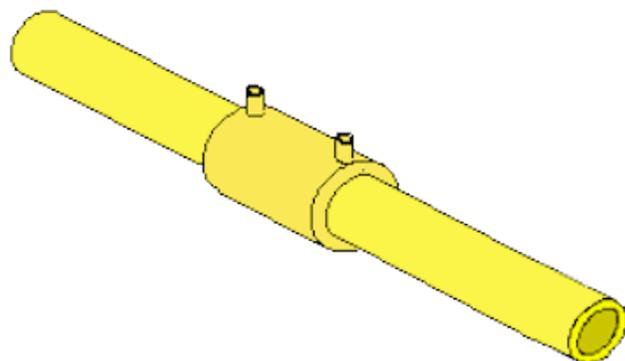

Figure D10 – Completed Joint
12. Allow the joint to cool for the given cooling time prior to removing the alignment clamps. Figure D10.